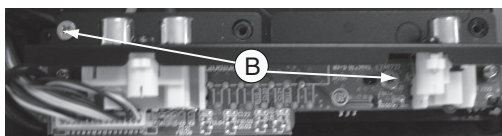
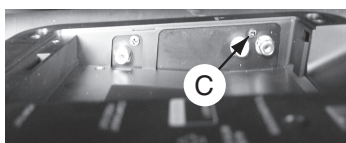

Figure 3
Figure 4
- 1) Loosen 2 screws "B" and loosen 1 screws "C" to remove SCART Board as shown in figure 3 & figure 4.